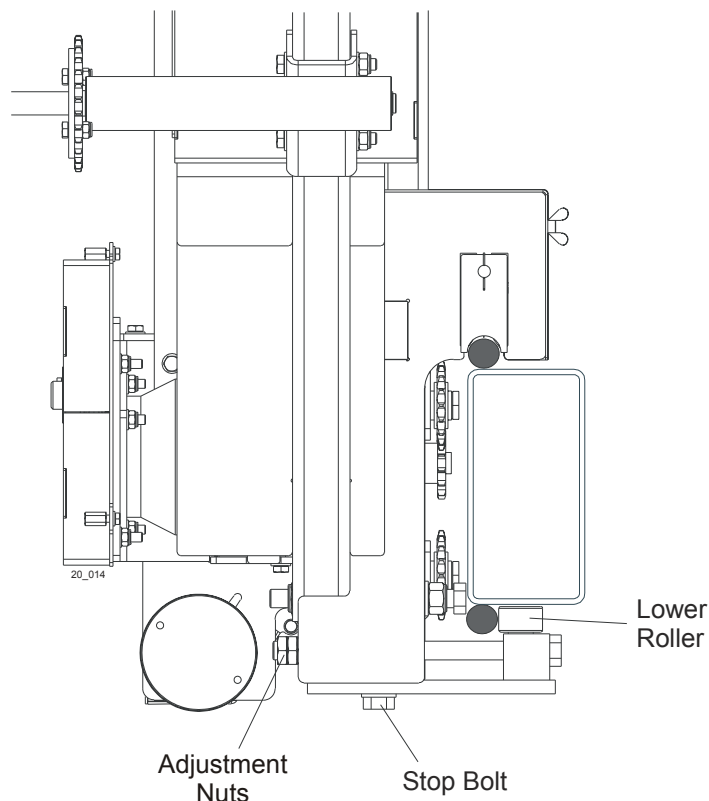

**FIG. 6-9**
**See Figure 6-9.** Use the horizontal adjustment screw to adjust the drive-side blade wheel. Loosen the jam nut on the adjustment screw. Loosen adjustment screw to move blade out on wheel. Tighten adjustment screw to move blade in on wheel. Tighten the jam nut.